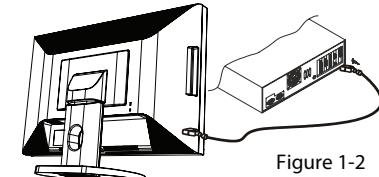

Figure 1-2
2. Connect one end of the signal cable to the LCD Monitor's VGA port or DVI-I or DVI-D port. (See Fig 1-2)